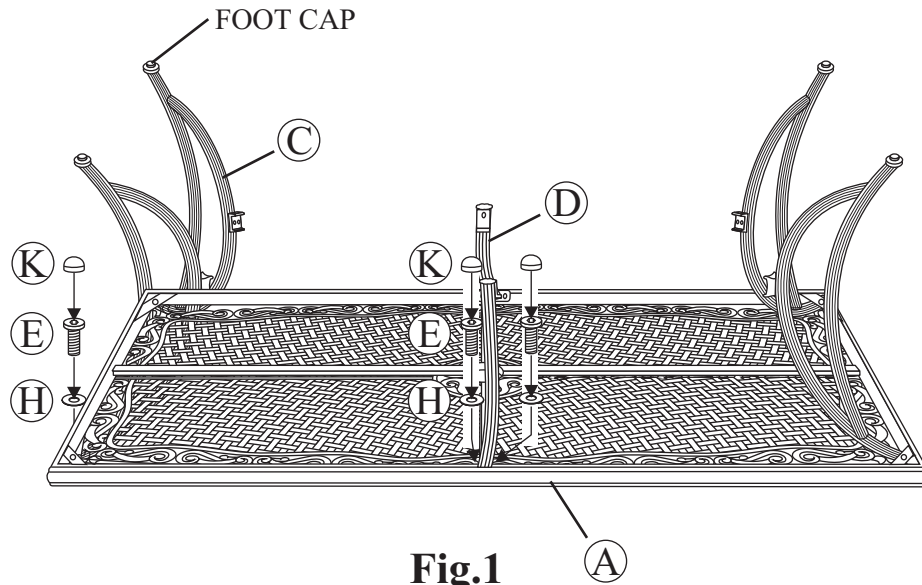

Fig.1
1 **Important: We recommend 2 people work together to assemble the chair.** Note the arrow labels on the "U" bar and the rocker assembly. Also note the horseshoe shape of the rocker plate. Point the open end of the horseshoe away from you. The arrows on the rocker assembly should be pointing towards you. Set the chair frame on the rocker assembly with front of the seat facing you and the arrows on the "U" bar pointing towards you as shown in **Figure 1**. This is very important for a safe, balanced rocking motion. **If chair frame has been properly positioned on the rocker assembly, all arrows on the "U" bar and rocker assembly will be pointing in the same direction.**
- 1 Place the table top upside down on a flat, non-abrasive surface. Attach the table leg to the table top by using the bolts and washers as shown in Fig. 1. Guide the bolts through the holes in the table leg, into the pre-drilled holes in the table top. **Hand tighten only.** Repeat for the other three legs.
Place the table top upside down on a flat, non-abrasive surface. Attach table leg to table top by using a 1/4"x20 mm bolt and a washer as shown in **Fig.1**. Place the leg beneath the table rim corner bracket. Guide the bolt through the hole in the table rim and into the pre-drilled hole in the table leg. **Hand tighten only**. Repeat for the other three legs. Attach the topside support to the table top by using two 1/4"x20 mm bolts and washers as shown in **Fig.1**. **Hand tighten only**. Repeat for the opposite side.